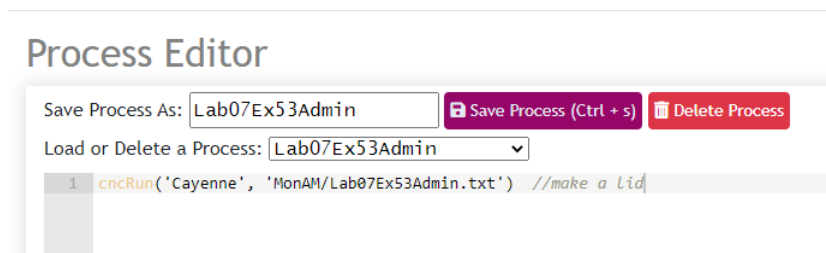

Figure 16: G-Code lines to remove, second figure
22. Finish the process started earlier by adding a 'cncFile' argument, the filename copied from the CNC wizard, also shown in Figure 16.